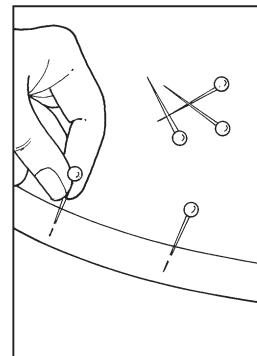

Fig. 24-3
2. Press the hem to the wrong side of the garment along the marked hemline. Some bulky fabrics will not hold a crease, so you may need to pin the hem in place. (Fig. 24-3)